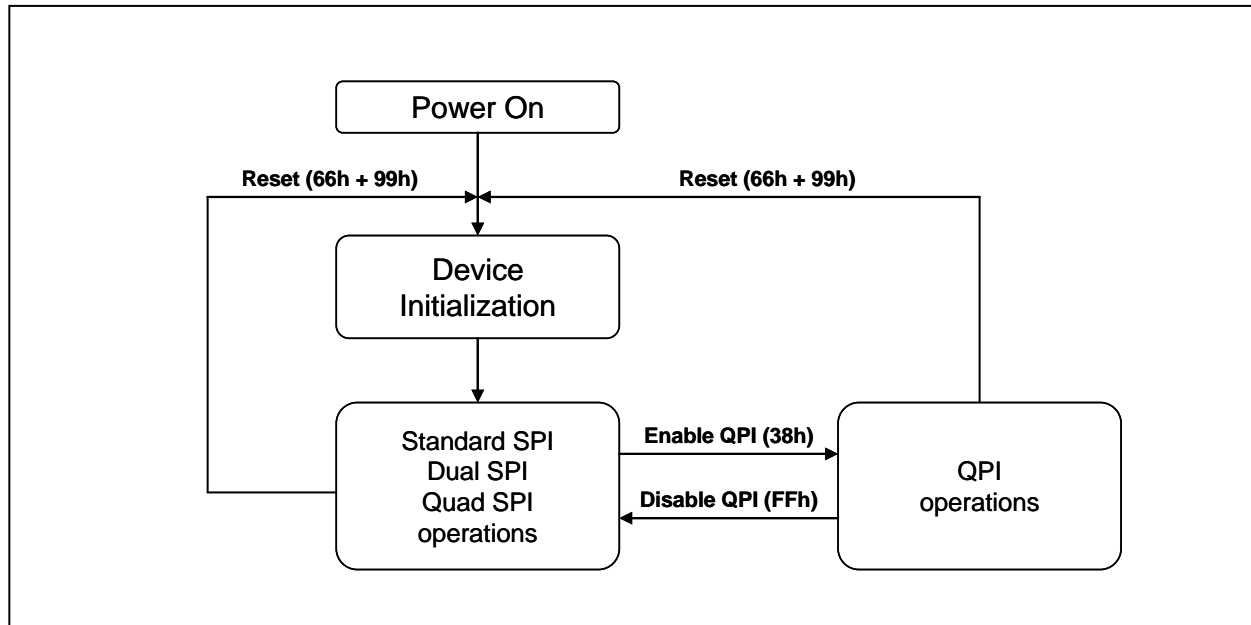

Figure 3. W25Q16DW Serial Flash Memory Operation Diagram
The W25Q16DW supports Quad Peripheral Interface (QPI) operations only when the device is switched from Standard/Dual/Quad SPI mode to QPI mode using the “Enable QPI (38h)” instruction. The typical SPI protocol requires that the byte-long instruction code being shifted into the device only via DI pin in eight serial clocks. The QPI mode utilizes all four IO pins to input the instruction code, thus only two serial clocks are required. This can significantly reduce the SPI instruction overhead and improve system performance in an XIP environment. Standard/Dual/Quad SPI mode and QPI mode are exclusive. Only one mode can be active at any given time. “Enable QPI (38h)” and “Disable QPI (FFh)” instructions are used to switch between these two modes. Upon power-up or after a software reset using “Reset (99h)” instruction, the default state of the device is Standard/Dual/Quad SPI mode. To enable QPI mode, the non-volatile Quad Enable bit (QE) in Status Register-2 is required to be set. When using QPI instructions, the DI and DO pins become bidirectional IO0 and IO1, and the /WP and /HOLD pins become IO2 and IO3 respectively. See Figure 3 for the device operation modes.